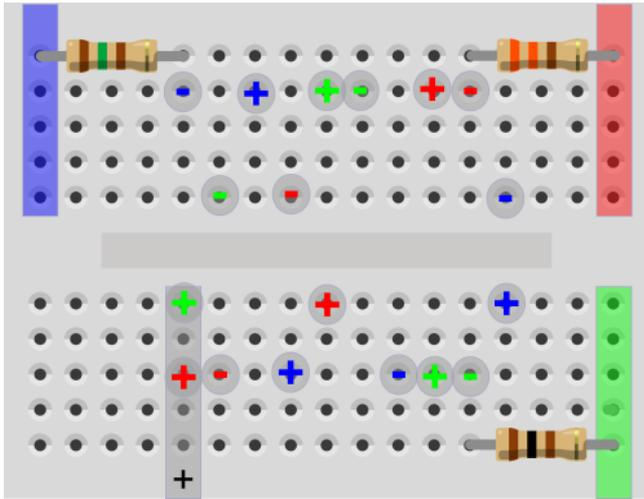

Figure 5-22. *Matching the LED legs to the + and – symbols*
3. Place the LEDs onto the breadboard. The short legs go to the matching cycles with the minus symbol in them, and the long legs go to the plus symbol. Match the LED colors to the colors of the symbols (Figure 5-22).